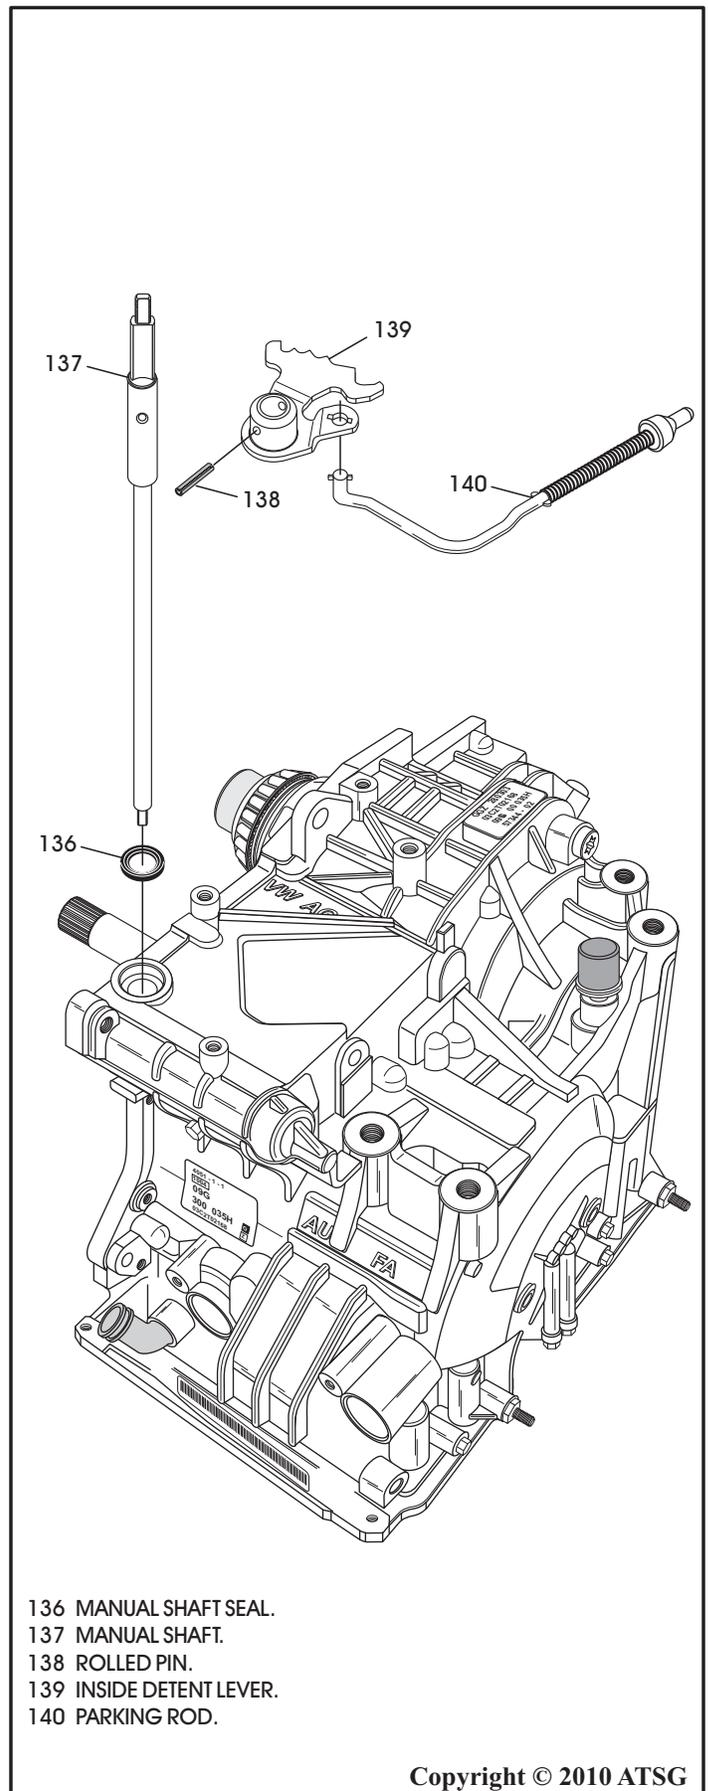

Figure 70
41. Remove the manual shaft from the top side of the transaxle, as shown in Figure 70, by sliding out through the inside detent lever and the case bore.
42. Remove the inside detent lever and park rod, as shown in Figure 70.
43. Remove and discard the manual shaft seal in the case, as shown in Figure 70.